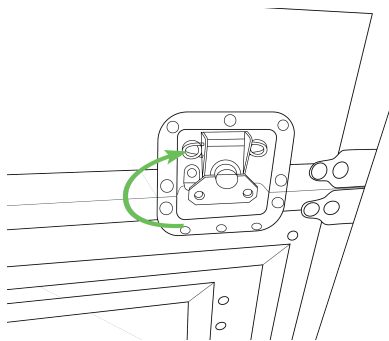

Figure 6-20. Butterfly latches to unlatch top compartment
1. Unlatch the top compartment of the setup box by rotating both butterfly latches to the left (Figure 6-20).